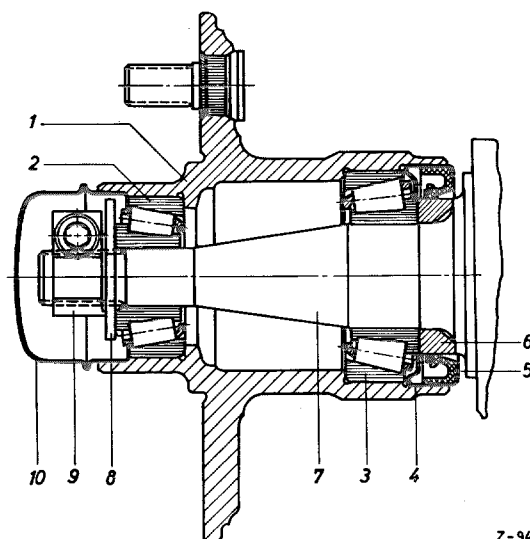

Fig. 33 — 5/7
14. Check that the wheel fixing bolts are tightly held on the wheel hub and check that the threads are in perfect condition (Fig. 33 — 5/7).